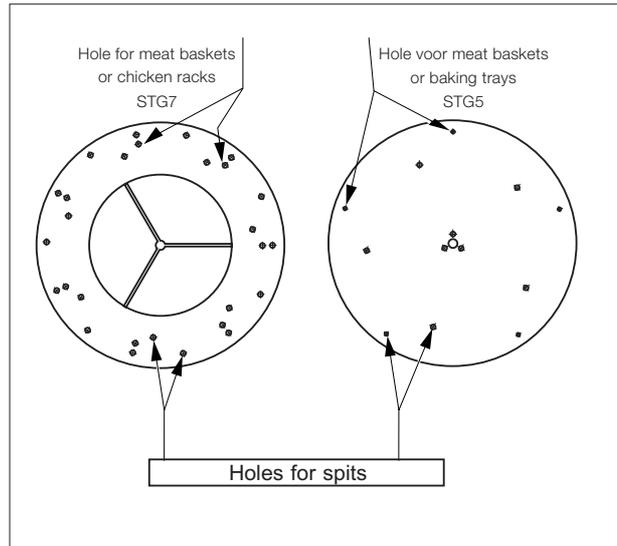

Figure 2.2
- Place the spits in the rotor discs (see figure 2.2).